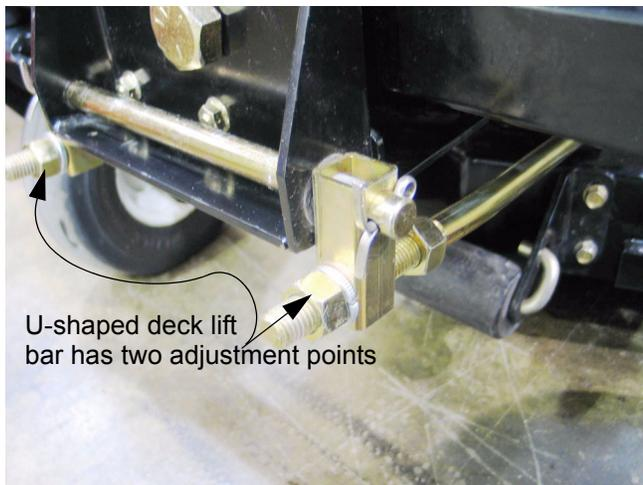

Figure 9.8
- 9.8. **Deck pitch adjustment:** Mowers produced after November 2005, or retrofitted with a new deck after November 2005: See Figure 9.8.